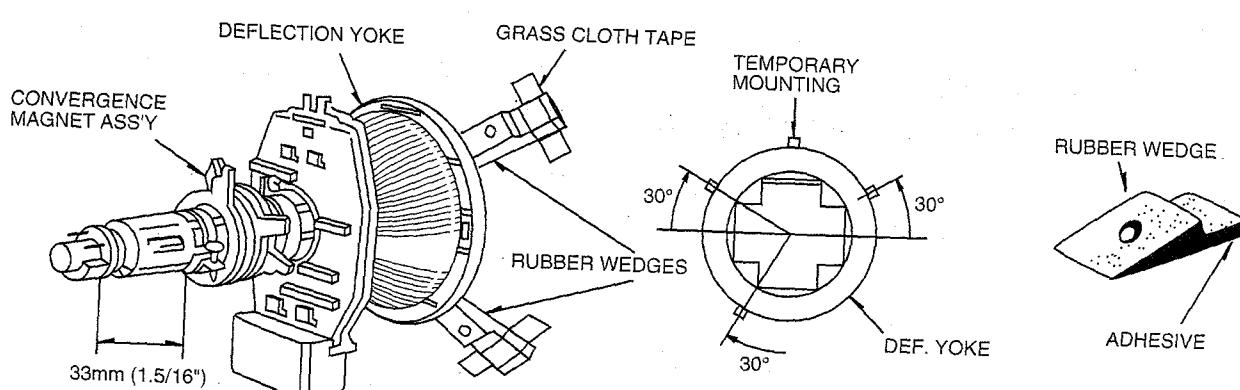

Fig. 15 RUBBER WEDGES LOCATION
Convergence Magnet Assembly and Rubber Wedges need mechanical positioning following Fig. 15
- (i) Stick 3 grass cloth tapes on wedges as shown in Figure 15.